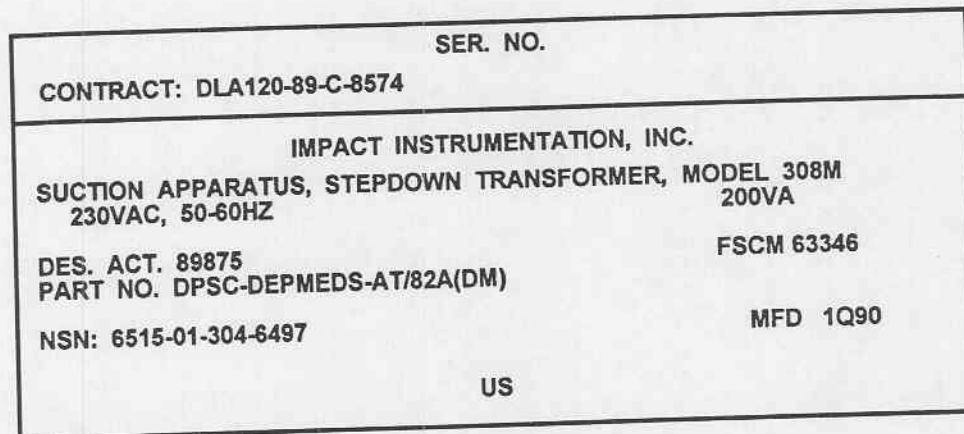

Figure 1-13. Transformer decal.
(4) The power transformer manufacturer data plate (located on the bottom of the transformer) is depicted in figure 1-13.